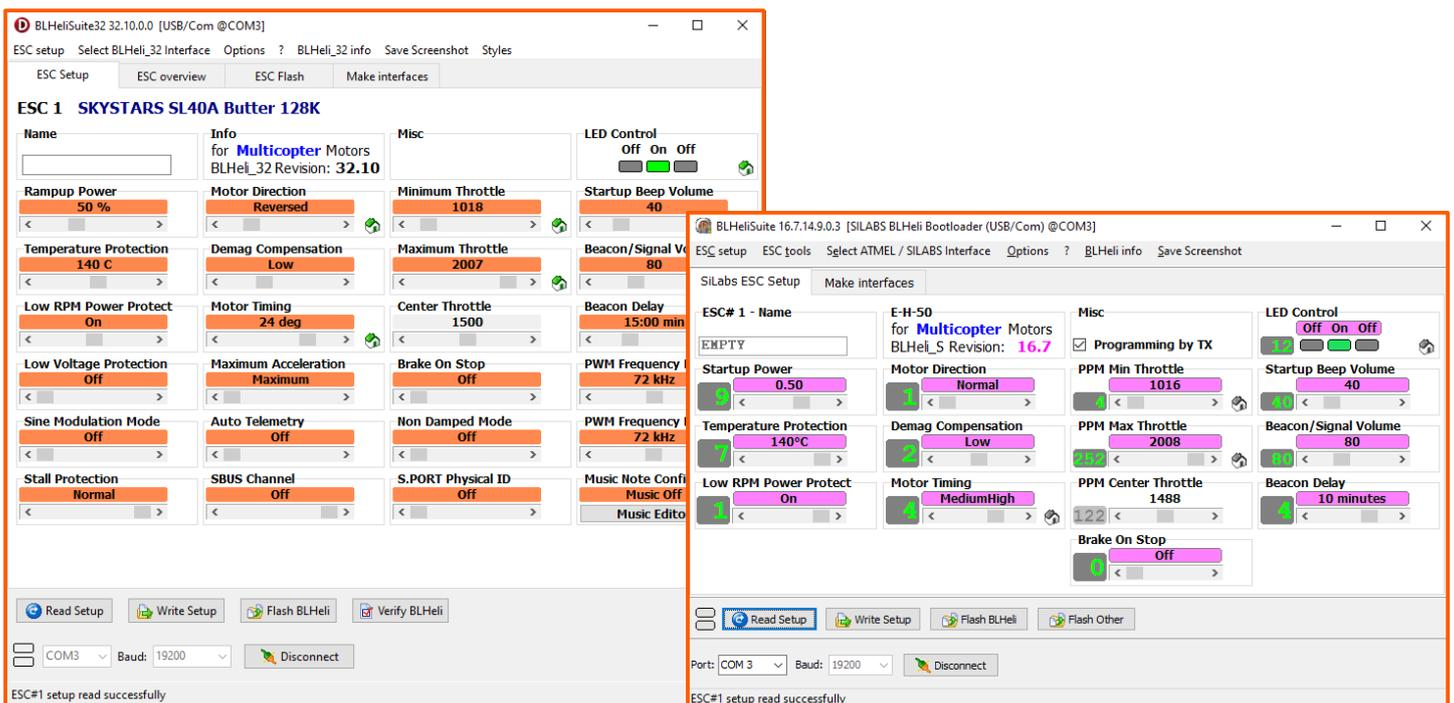

Figure 3: ESCs' settings set by DRONTECHLAB in BLHeliSuite32 configurator (left) and BLHeliSuite configurator (right).
7. Change needed parameters, possibly Flash ESC to newest firmware (i.e. see settings in Table 1 and in Figure 3).